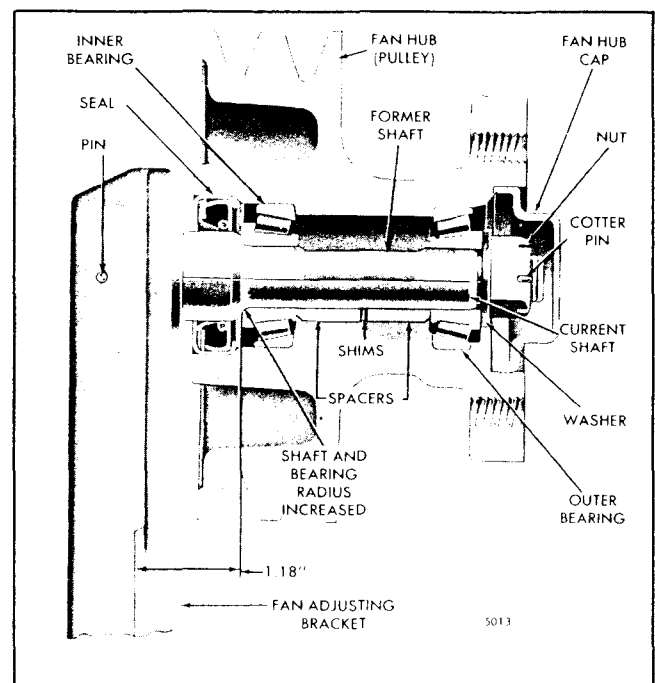

Fig. 6 - Shaft Type Fan Hub Assembly (6V Engine)
2. Remove the hub retaining cotter pin, nut and washer (Fig. 6) or the bolt and special washer
The fan hub assembly illustrated in Fig. 6 has been revised. The revisions consist of an increase in the bearing inner race and shaft bearing radii, a hardened hub retaining nut and washer and the addition of spacers and shims on the shaft between the bearings. This type fan hub assembly should be rebuilt with the current parts, especially where the former undercut shaft is used. The current spacers and shims cannot be used with the former shaft.
To replace the shaft, remove the groove pin and press the shaft from the adjusting bracket. Press the new shaft in the bracket to the dimension shown in Fig. 6. Then drill the shaft, using the hole in the bracket as a guide, and install a groove pin.
Assemble the fan hub, shaft and adjusting bracket shown in Figs. 6 and 9 as follows: